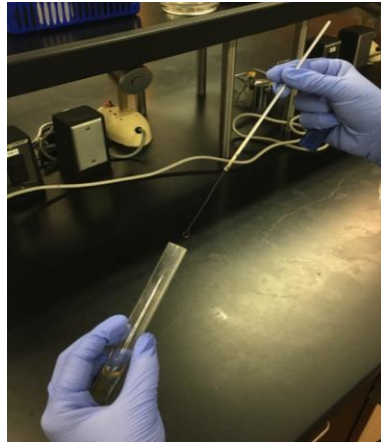

Fig. 7- Inserting the loop into a broth or slant
- Insert the loop into the test tube; do not touch the lip of the tube with the loop or your fingers. Fig. 7. Dip the loop into the liquid and withdraw it from the tube.